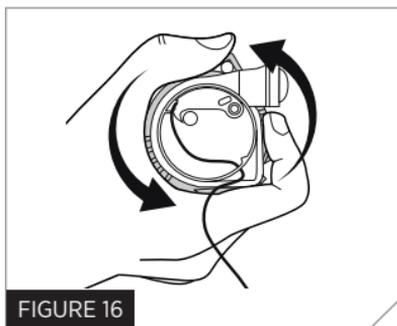

FIGURE 16
5. Once you have enough space between yellow and black, put the key aside and grip the black locking ring directly. Continue to turn the black locking ring counter-clockwise – opposite the yellow piece (Fig. 16).